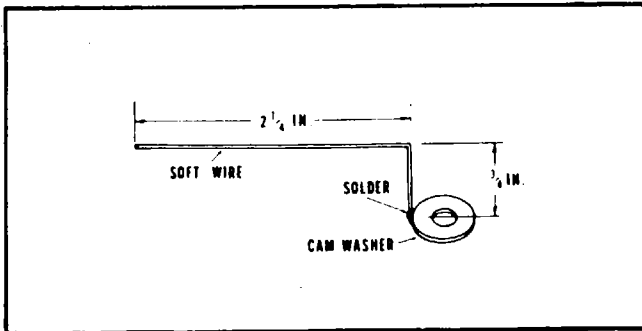

Figure 11-10. Timing Pointer
- b. Fabricate a timing pointer as shown in figure 11-10.